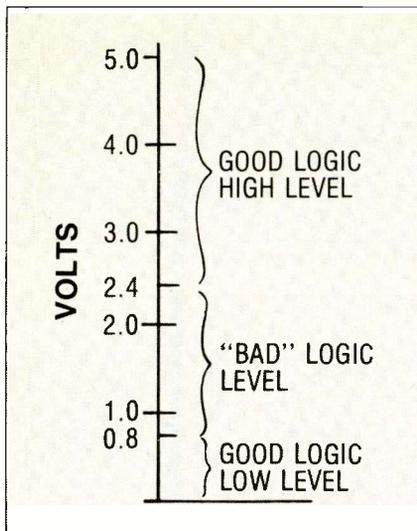

Fig. 2 High, low, and "bad" TTL logic levels.
3. *Pins at a Bad Level.* Here one or more of the pins of an IC will be at a level that is neither high nor low, but somewhere in a no-man's land in between. Fig. 2 shows what we can consider low, high, and bad levels in TTL logic.
low level. If the output pin is connected to the input pin of another gate, which it usually is, the level will be about 1.4V. As shown back in Fig. 2, this is neither a good high nor a good low level. The reason for this level is that if the input pin of a gate is left floating with no signal applied, it will drift to a bad level. It is interesting to note that the gate itself will always interpret this bad level as a high level and will behave accordingly.